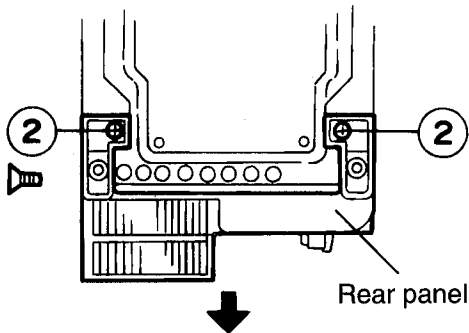

Fig. 2
2. After turning the body upside down, remove the two screws ② retaining the rear panel (See Fig.2).